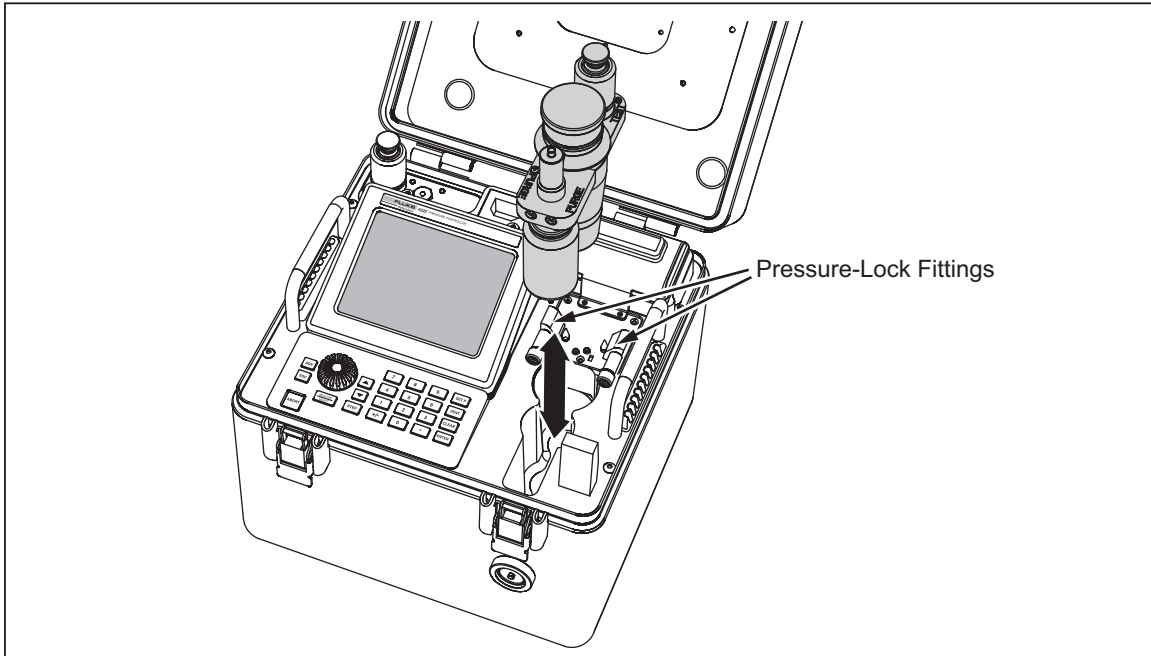

Figure 2-7. CPS Installation and Removal
3. Carefully put the CPS into the Controller. Make sure the pressure-lock fittings lock and the CPS is fully seated (see Figure 2-7).
*The CPS is held in place by a pair of pressure lock fittings that are locked when pressure is applied to prevent CPS removal. When pressure is not applied, the CPS can be easily lifted from the Controller (see Figure 2-7).*